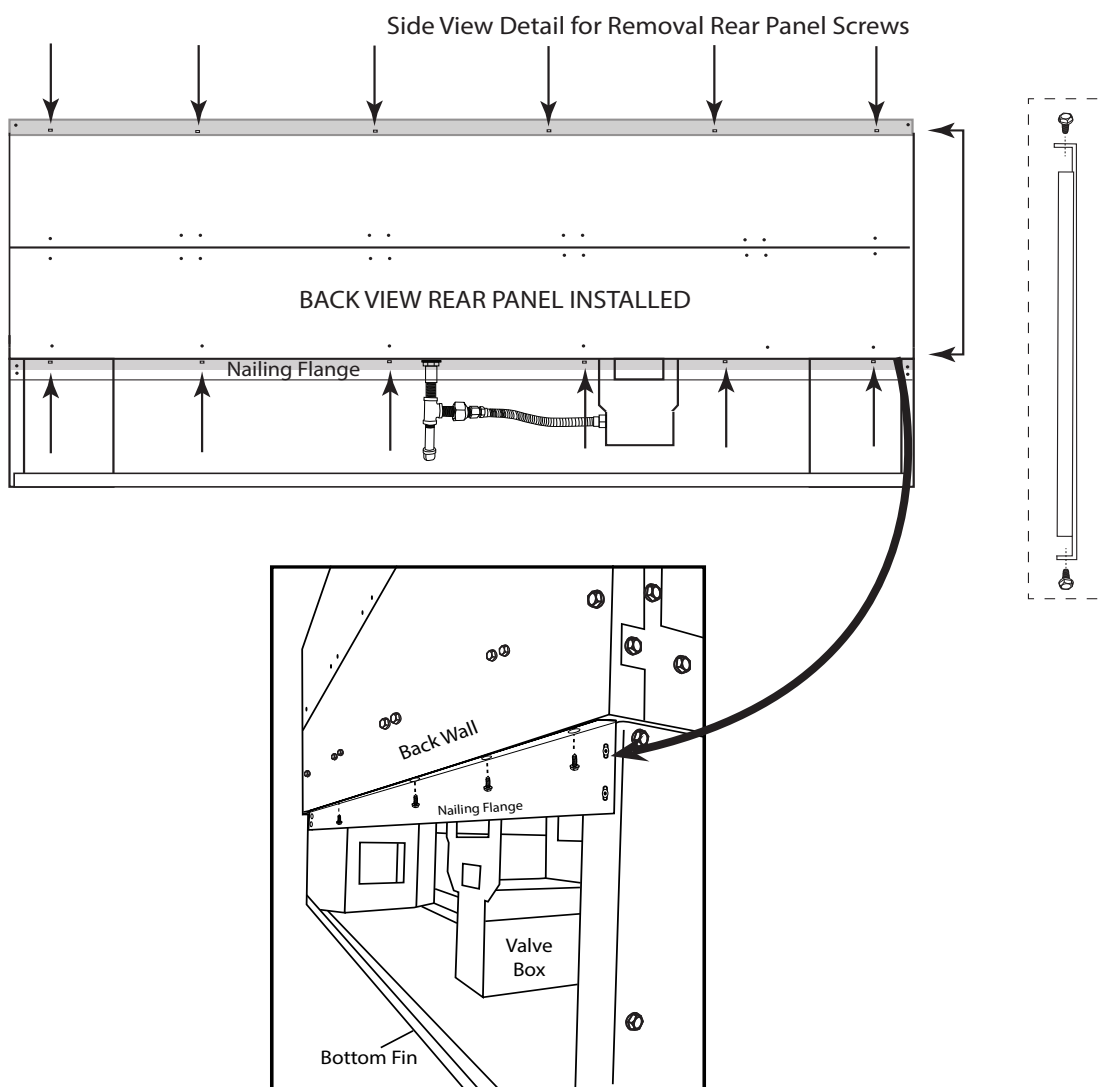

Figure 9 - Removing back wall to convert to optional see-through model.
Step 1. Look at the back side of the fireplace. Around the outer perimeter area of the frame or back wall are several screws to remove (See the shaded area in Figure 9). Only remove the top and bottom screws on the rear panel. The nailing flange will remain in place. The back panel will remove as one panel. The number of screws removed will vary with each fireplace model.